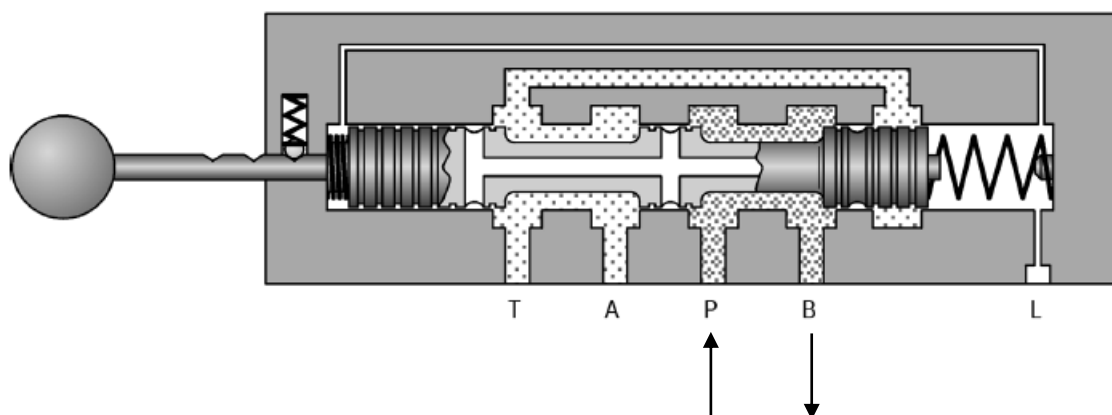
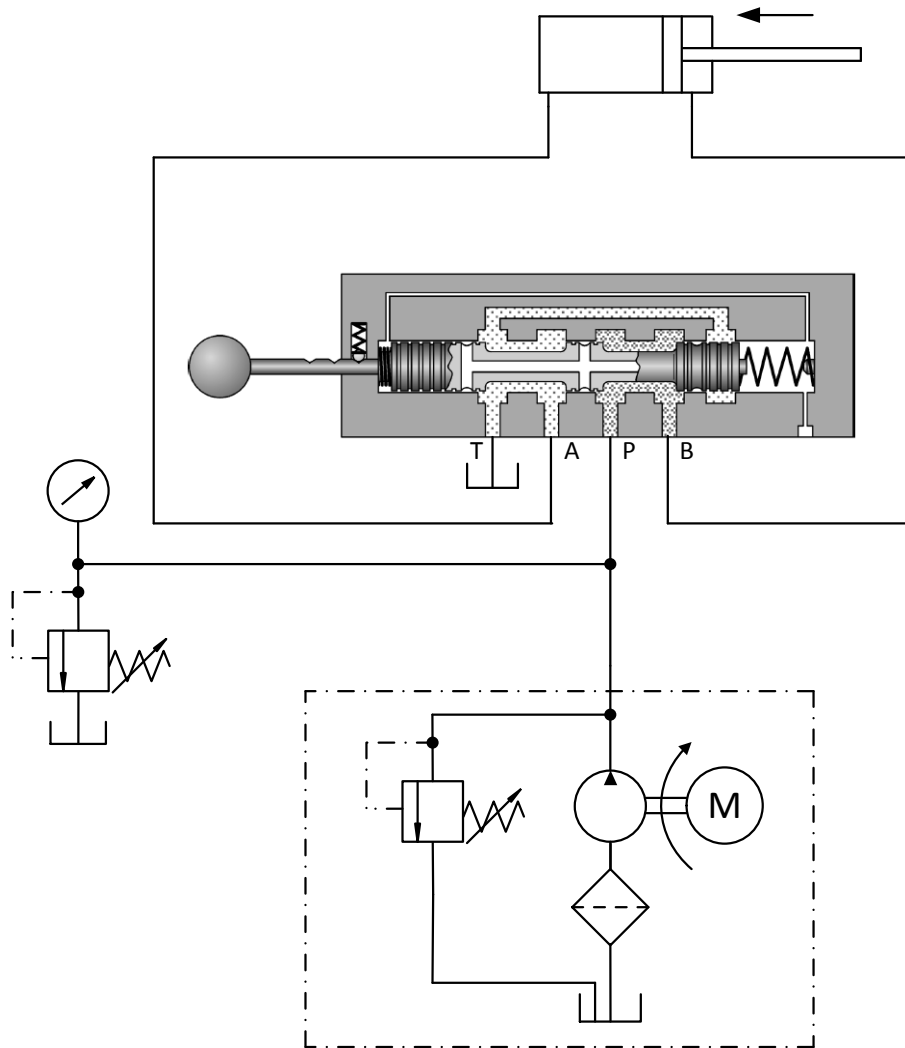

FIG 6.
FIG 7.
- C. When the spool is moved into position b, the oil from the pump is directed from port p to port b causing the rod to retract. As the rod retract, the oil in the piston side of the cylinder returns through the control valve to the reservoir. See Fig 6 and Fig 7 on the next page.